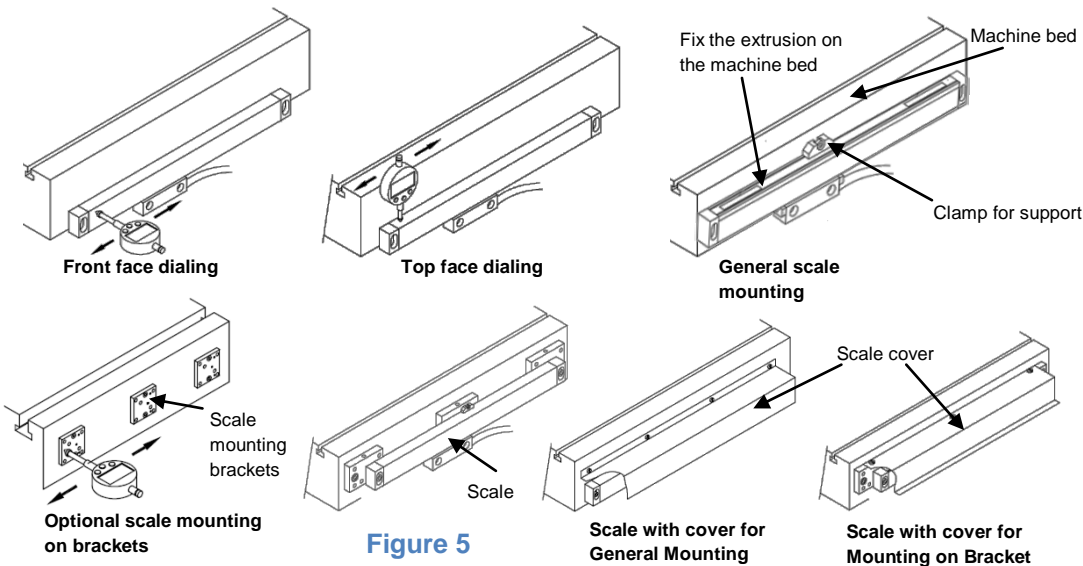

Figure 5
- If the mounting surface of the machine is even (within 0.1mm/m), then the scale can be directly mounted to the machine. Ensure the parallelism to full length of the scale as instructed in the mounting tolerances using a dial indicator. Refer Figure 5.
- Mounting brackets should be positioned at the two ends of the scale as shown in the Figure 5. The alignment of the blocks should be checked using dial indicator before mounting the scale. Use middle support as indicated in Figure 5 at every 500mm.
- Ensure the supplied cover is properly mounted to protect the scale and reader head for the entire length to ensure the reliability and performance of the system. Refer Figure 5.